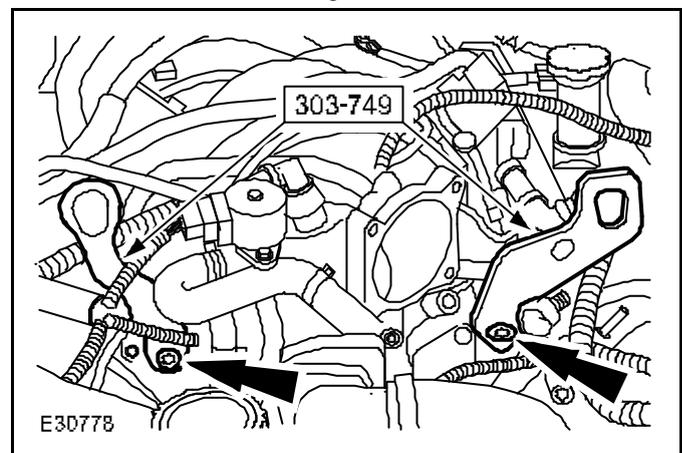

Fig. 14
- 27 Remove the special tools (see Fig. 14).